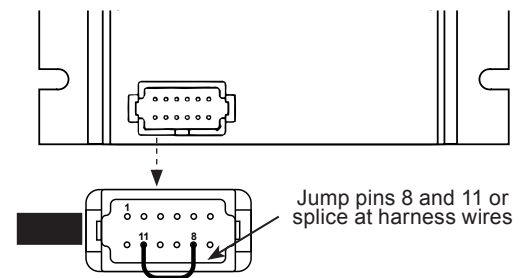

Figure 7: Reuse Existing FLD wire for IGN by Jumping Harness Sockets
- If replacing **Transtech** regulator: remove regulator harness connector and jumper pins 8 and 11. See Figure 7. Tape or cable tie jumper securely in place. Alternate method is to splice harness wires from pins 8 and 11 together.